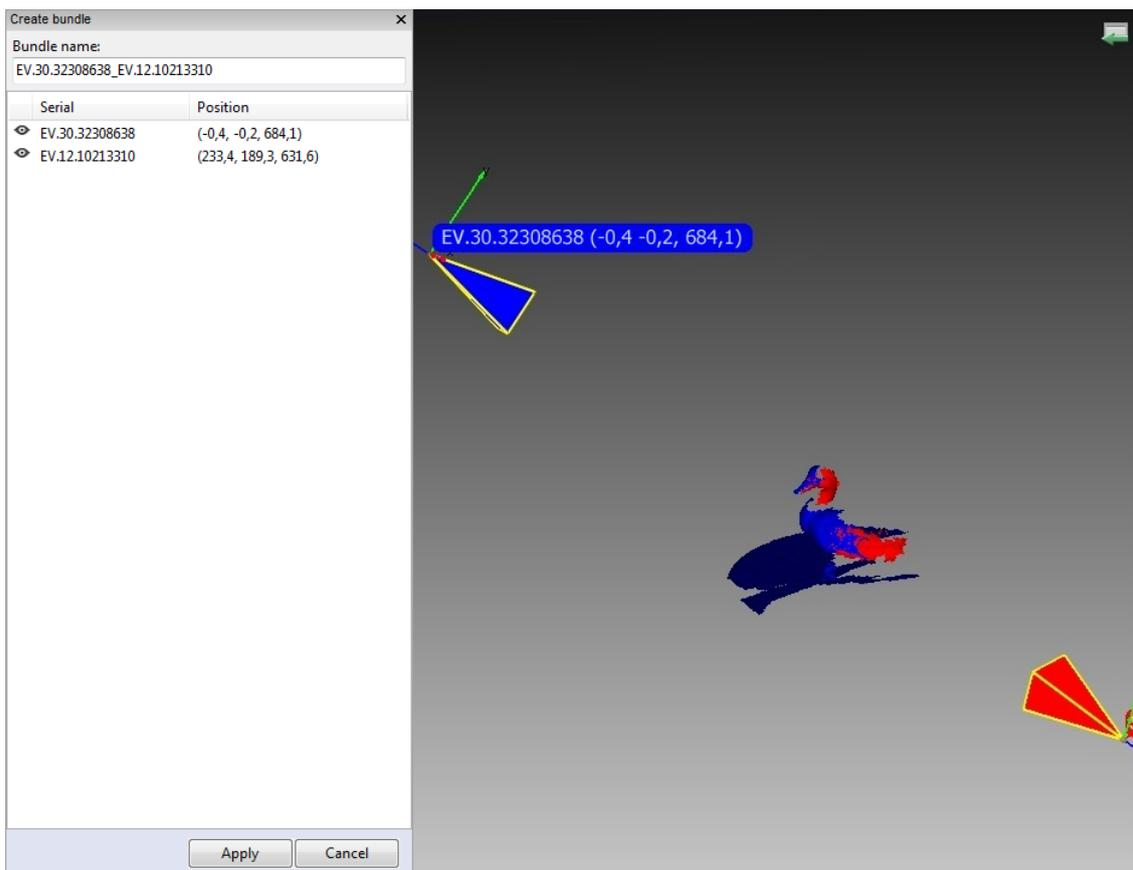

Figure 130: Bundle-creation window.
7. From the menu, select *File* → *Create bundle*. A warning message will appear if you forget to align the scans. Otherwise, the bundle-creation panel will appear (see Figure 130). The *3D View* window will show the selected scans, the position and viewing direction of the scanners (by means of an appropriately colored pyramid), the device ID, and the scanner coordinates. It will display a list of connected devices and corresponding information.